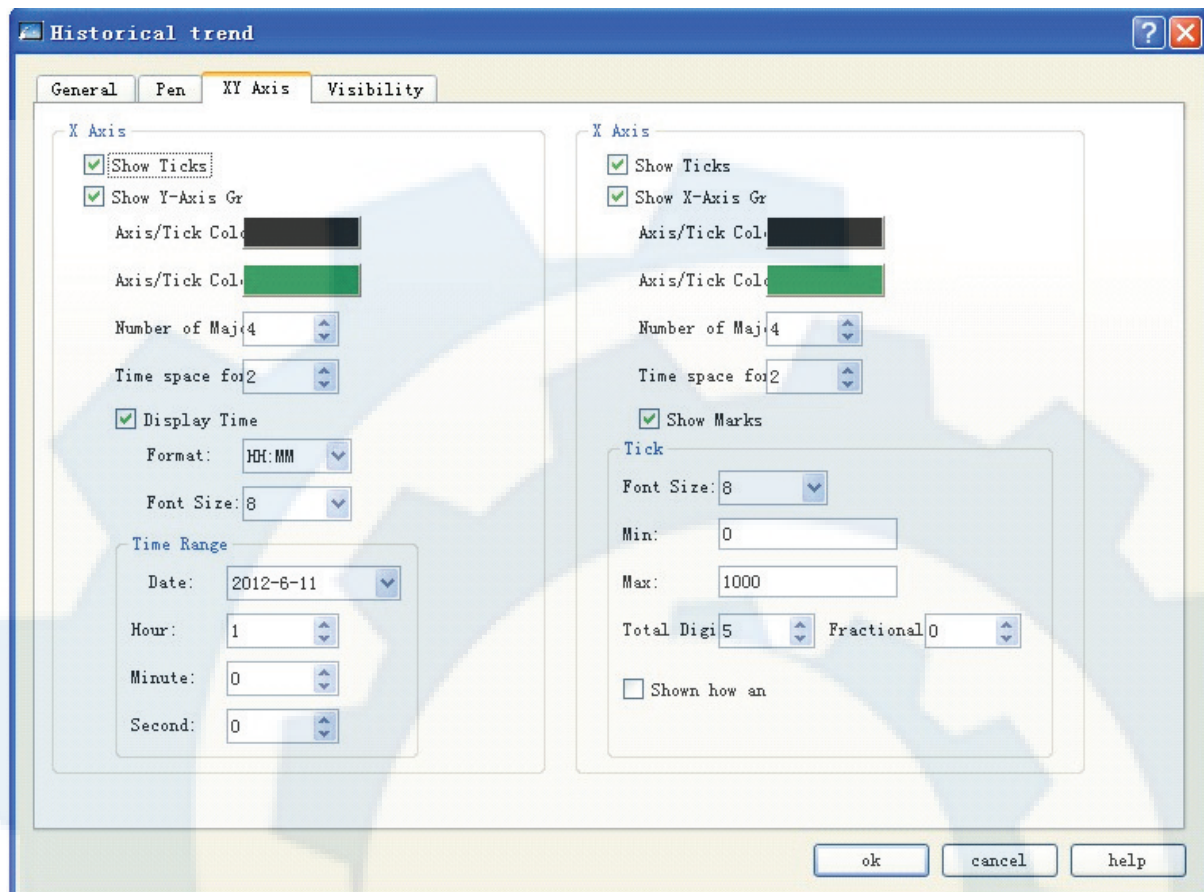

Figure 4-60: XY Axis tab of Trend Chart
3. XY Axis tab of Historical trend chart, as shown in Figure 4-60: